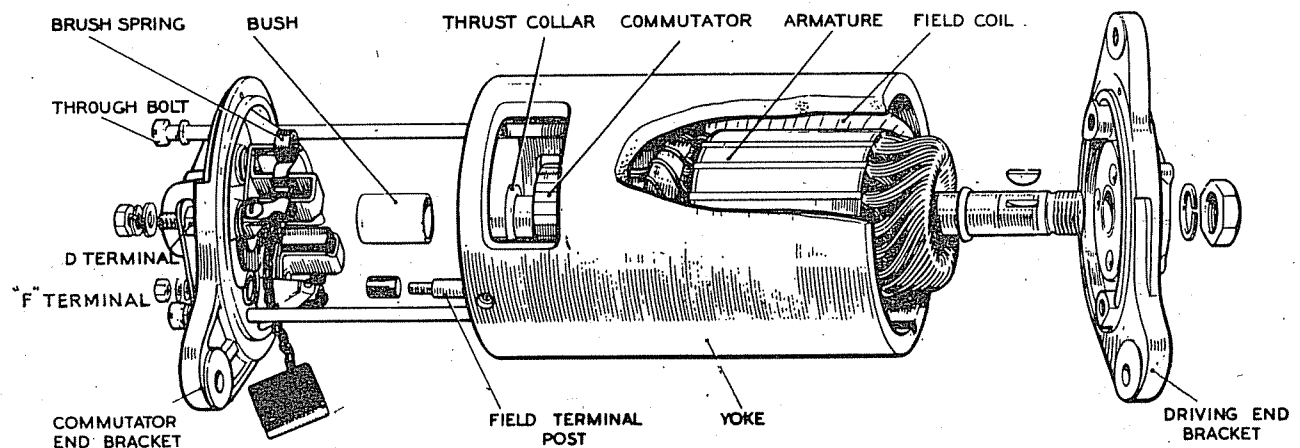

Fig. 11—Generator Dismantled View (Yoke cut away to show interior).
- (1) Inspect the driving belt and adjust if necessary (See Paragraph 5-c).
- (2) Check that the generator and control box are connected correctly. The generator terminal "D" must be connected to control box terminal "D", Figure 3, and generator terminal "F", Figure 11, to control box terminal "F", Figure 3. Check the earth connection to terminal "E", Figure 3, of the control box.
- (3) Switch off all lights and accessories, disconnect the cables from terminals of generator marked "D" and "F" (Figure 11) and connect the two terminals with a short length of wire.
- (4) Start the engine and set to run at normal idling speed.
- (5) Clip the negative lead of a moving coil type voltmeter, calibrate 0-20 volts, to one generator terminal and the other lead to a good earthing point on the yoke.
- (6) Gradually increase the engine speed, when the voltmeter reading should rise rapidly and without fluctuation. Do not allow the voltmeter reading to reach 20 volts and do not race the engine in an attempt to increase the voltage. It is sufficient to run the generator up to a speed of 1000 r.p.m.
- (8) If the generator is in good order, remove the link from between the terminals and restore the original connections, taking care to connect generator terminal "D" to control box terminal "D" and generator terminal "F" to control box terminal "F".
- (b) To dismantle (Refer Figure 11).
- (1) Take off the driving pulley.
- (2) Remove the cover band, hold back the brush springs and remove the brushes from their holders.
- (3) Remove the nut, spring washer and flat washer from the smaller terminal (i.e. the FIELD terminal) on the commutator end bracket.
- (4) Unscrew and withdraw the two through bolts. In some cases locking nuts are fitted.
- (5) The commutator end bracket can now be withdrawn from the generator yoke.
- (6) The driving end bracket together with the armature can now be lifted out of the yoke.
- (7) The driving end bracket, which on removal from the yoke has withdrawn with it the armature and armature shaft ball-bearing,